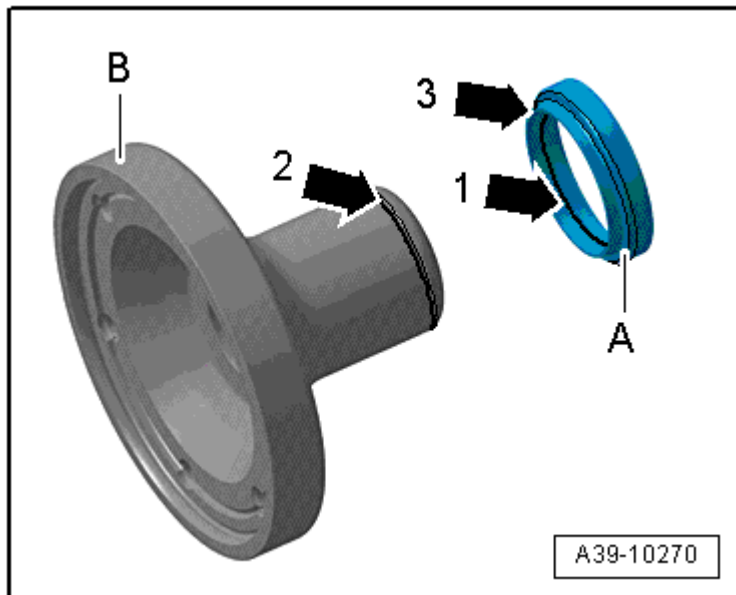

Fig. 99: Ring Installed Position -A- On Flange/Driveshaft
- The ring -A- must clip into the chamfer in the flange. Refer to **Fig. 99**.